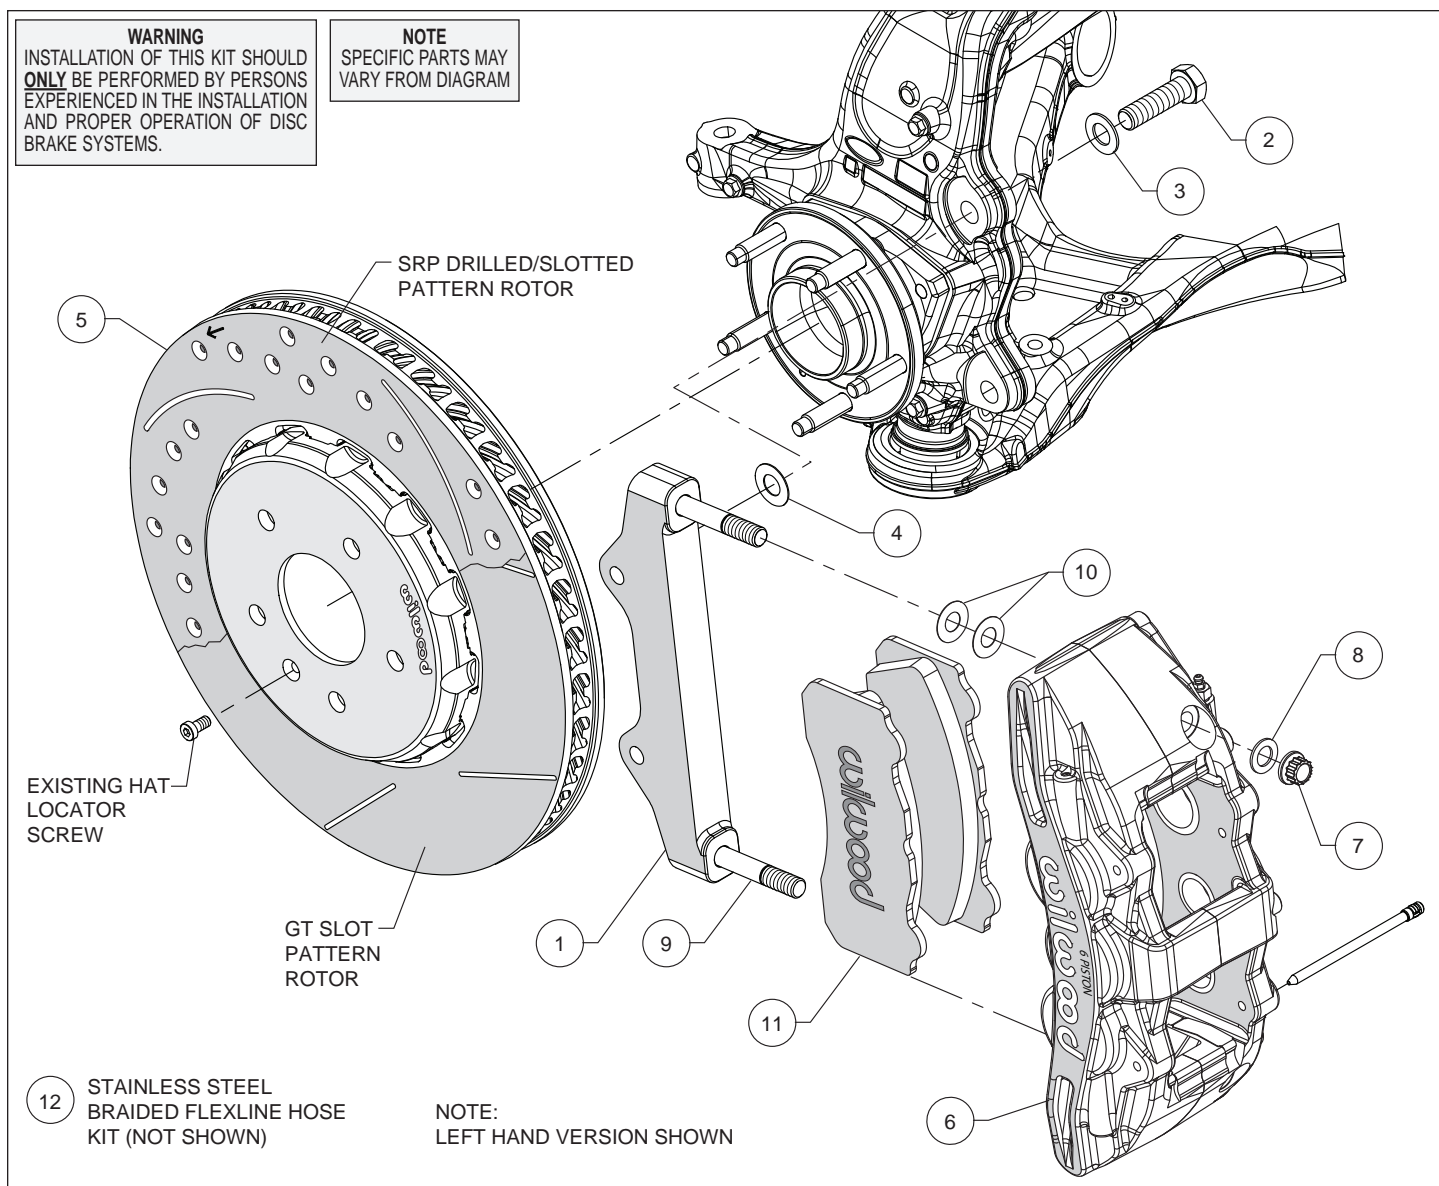

Figure 1. Typical Installation Configuration
Assembly Instructions (numbers in parenthesis refer to the parts list and Figure 1 on the preceding pages):
- The caliper mount bracket (1) should initially be installed with clean, dry threads on the mounting bolts. Orient the bracket, as shown in Figure 1 and Photo 1, and install using bolts (2) and washers (3). Initially place one .029" thick shim (4) on each bolt between the bracket and upright, Figure 1. Temporarily tighten the mounting bolts. **NOTE:** *The bracket must fit squarely against the mount bosses on the upright.* Inspect for interference from casting irregularities, machining ridges, burrs, etc. Later, after the caliper alignment has been checked, the mount bolts will be secured using red *Loctite*® 271.
- The hat/rotor assembly (5) has been pre-assembled at the factory. Verify the retaining ring holding the hat and rotor together is fully engaged in the groove in the hat. Slide the hat/rotor assembly onto the axle hub, Photo 2. **NOTE:** *The hat must fit flush against the axle hub flange or excessive rotor run out may result.* Install the hat locator screw (OEM), as shown in Figure 1, to keep the hat/rotor assembly in place while continuing with the installation.
- NOTE:** *This kit contains distinct right and left hand calipers that must be mounted in a specific direction, as described below.* Lubricate the caliper mounting studs (9) with lightweight oil. Initially place two .015" thick shims (10) on each stud between the caliper and the bracket, as shown in Figure 1 and Photo 3. Mount the caliper (6) onto the bracket (1) using lock nuts (7) and washers (8), Figure 1. Temporarily tighten the lock nuts. Ensure that the caliper is mounted so the largest pistons are at the rotor exit end of the caliper, in relation to the direction of the rotor. View the rotor through the top opening of the caliper. The rotor should be centered in the caliper, Photo 4. If not, adjust by adding or subtracting shims (4) between the bracket and the upright. Always use the same amount of shims on each of the two mounting bolts. Once the caliper alignment is correct, remove the bracket mounting bolts (2) one at a time, apply red *Loctite*® 271 to the threads, and torque to 77 ft-lbs.
- Remove the two pad retaining pins from the caliper (6) by pushing out the pins from the tapered end using a blunt instrument. Insert the brake pads (11) into the caliper from the bottom, Figure 1 and Photo 5. With the friction material facing the rotor, secure the brake pads in place with the pad retaining pins, Photo 6. Reinstall the caliper onto the caliper mounting bracket and temporarily tighten the lock nuts (7). Check that the top of the brake pad is flush with the outside diameter of the rotor, Photo 7. If not, adjust by adding or subtracting shims (10) between the caliper and the bracket. After the caliper pad height is set, torque the caliper lock nuts (7) to 65 ft-lb.